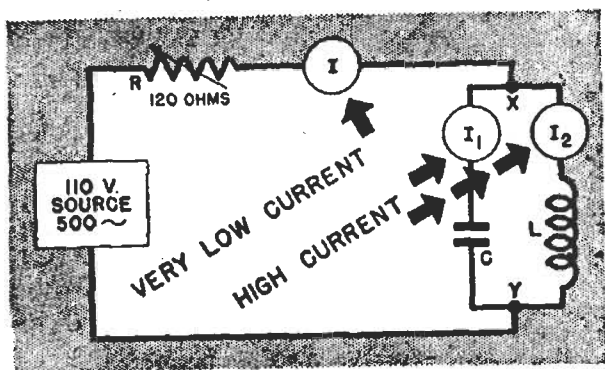

FIG. 8. The current within a parallel resonant circuit is very high, compared to the line current, due to resonance current step-up.
► Suppose we set up a circuit like that in Fig. 8, with a.c. ammeters inserted in the parallel resonant circuit to measure currents  $I_1$  and  $I_2$  through  $C$  and  $L$ , respectively. We would discover another surprising fact—there is plenty of current inside the parallel circuit itself!  $I_1$  and  $I_2$  are both high, and equal to one another. Yet, outside the parallel circuit, there is practically no current.
► Clearly, this resonant circuit for some reason acts like a very high resistance *across its terminals* ( $X$  and  $Y$  in Fig. 8), but at the same time offers very little opposition to current flow *in the resonant circuit itself* (the circuit made up of  $L$ ,  $C$ , and the two ammeters). The reason for this peculiar combination of actions is really quite simple. Here, our reference factor is the source voltage which is across both the coil and the condenser. You know that the current flow in a coil is  $90^\circ$  *behind* the coil voltage, while the condenser current is  $90^\circ$  *ahead* of the condenser voltage. Since the source voltage is now across both the coil and the condenser, it becomes the coil voltage and the condenser voltage. As one current is ahead  $90^\circ$  and the other is behind  $90^\circ$ , this makes the *currents*  $180^\circ$  out of phase. (Compare this with the series resonant circuit, where the *current* is the reference value and the *voltages* are  $180^\circ$  out of phase.)
cuit (between points  $x$  and  $y$  in Fig. 8) is decreased. This allows more line current to flow, and makes the line current value more nearly equal to the condenser current. We can conclude, then, that inserting resistance in a parallel resonant circuit decreases both the resonant current step-up ratio (the ratio of coil current to line current) and the resonant resistance.